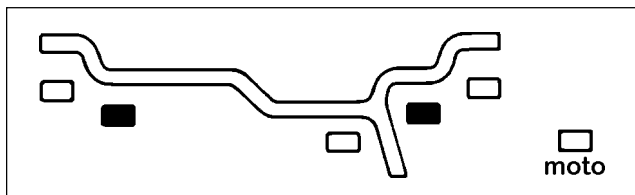

Fig.48
**B. ALU1.** The wheel weights position is as indicated in Fig.48. In this case use tape weights.